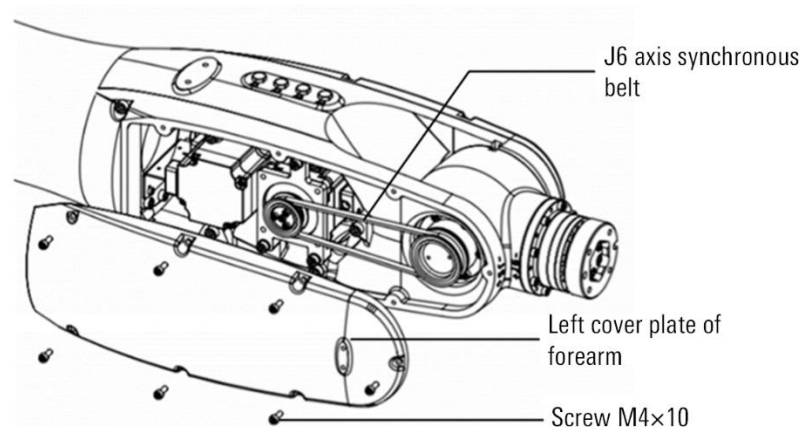

Figure 12-10 Remove the left cover plate of the upper arm
- Step3. Remove the manipulator forearm cover plate and 7 M4 screws, as shown in Figure 12-10.